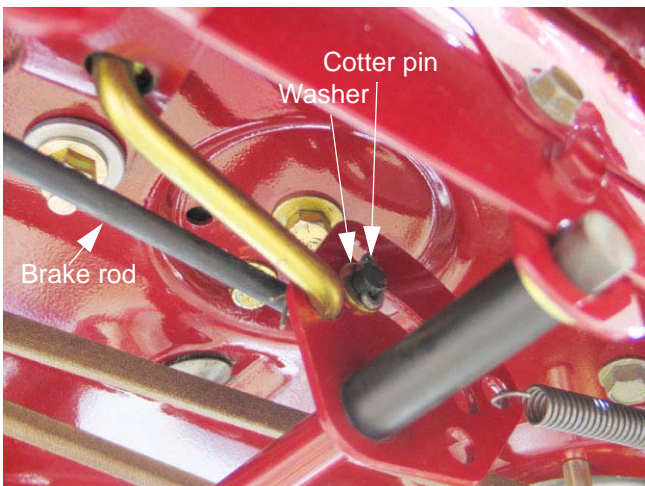

Figure 6.22
2. Disconnect the front of the brake rod from the brake pedal assembly by removing and discarding the cotter pin, removing the washer, and pulling the rod out of the hole in the bell crank on the brake cross shaft assembly. See Figure 6.22.